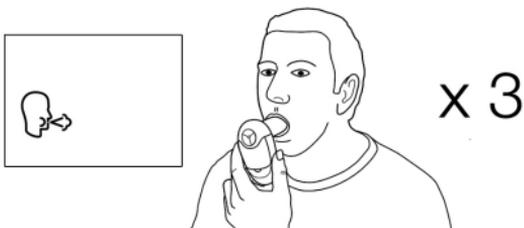

Figure 3. Holding device during test.
1. Turn the device on. ①
4. When the device is ready for a test (🔄), holding the head high, breathe in as deeply as possible, hold the Vitalograph asma-1 ready in front of the mouth, see Figure 3.